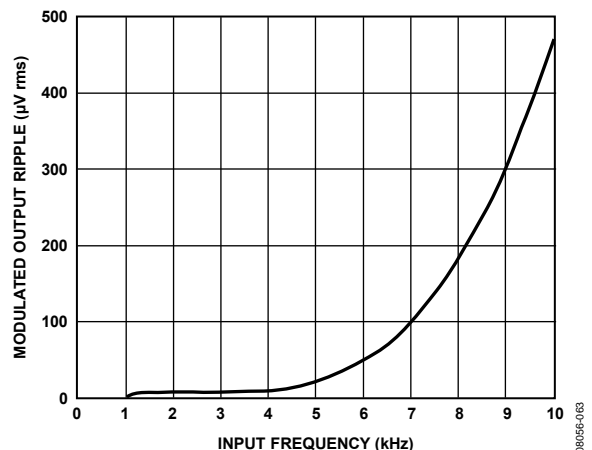

Figure 60. ADA4051-1/ADA4051-2 Modulated Output Ripple vs. Input Frequency
The remaining voltage ripple originates from two sources. The first type of ripple is due to the residual ripple associated with the initial offset of the Gm1. It is proportional to the magnitude of the initial offset and creates a spectrum at the chopping frequency (f_{CHOP}). When the amplifier is configured as a unity-gain buffer, this ripple has a typical value of 4.9 $\mu\text{V rms}$ and a maximum of 34.7 $\mu\text{V rms}$. The second type of ripple is due to the intermodulation between the high frequency input signal and the chopping frequency. This ripple depends on the input frequency (f_{IN}) and creates a spectrum at frequencies equal to the difference between the chopping frequency and the input frequency ($f_{\text{CHOP}} - f_{\text{IN}}$), as well as at frequencies equal to the summation of the chopping frequency and the input frequency ($f_{\text{CHOP}} + f_{\text{IN}}$). The magnitude of the ripple for different input frequencies is shown in Figure 60.
- No affect on the desired input signal as long as its frequency is much lower than the chopping frequency shown in Figure 60